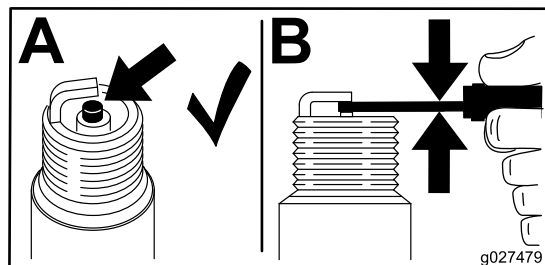

Figure 35
3. Remove the spark plug (Figure 35).